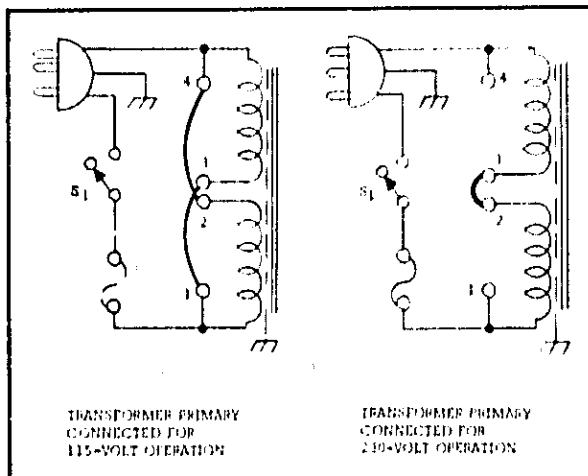

Figure 2-3. Input Power Transformer, Connections
2-17 CONNECTIONS FOR 230 VOLT OPERATION (Figure 2-3)
- Remove the jumpers between taps 4-2 and 3-1. Solder a jumper between taps 3-2 on the input power transformer T1, see Figure 2-3.